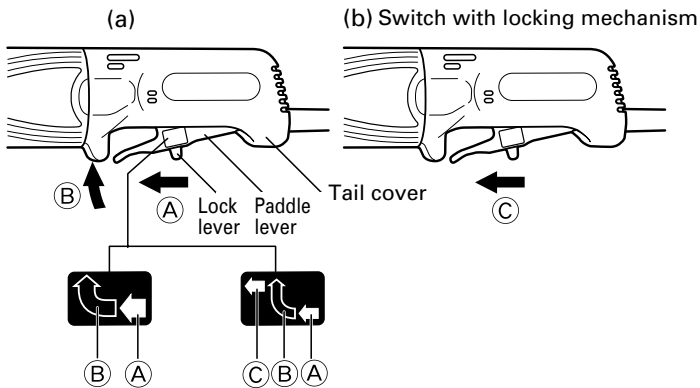

Fig. 3
Switch On: To switch on, slide the lock lever in the direction of ① and press the paddle lever in the direction of ② as shown in Fig. 3-a.
Furthermore, slide the lock lever in the direction of ③ shown in Fig.3-b while pressing the paddle lever to lock and enable continuous operation.
Switch OFF: To release the locking mode, press the paddle lever in the direction of ④ shown in Fig.3-a, and release the paddle lever to switch off.
To switch on, slide the lock lever in the direction of ① and press the paddle lever in the direction of ② as shown in Fig. 3-a. Release the paddle lever to switch off.